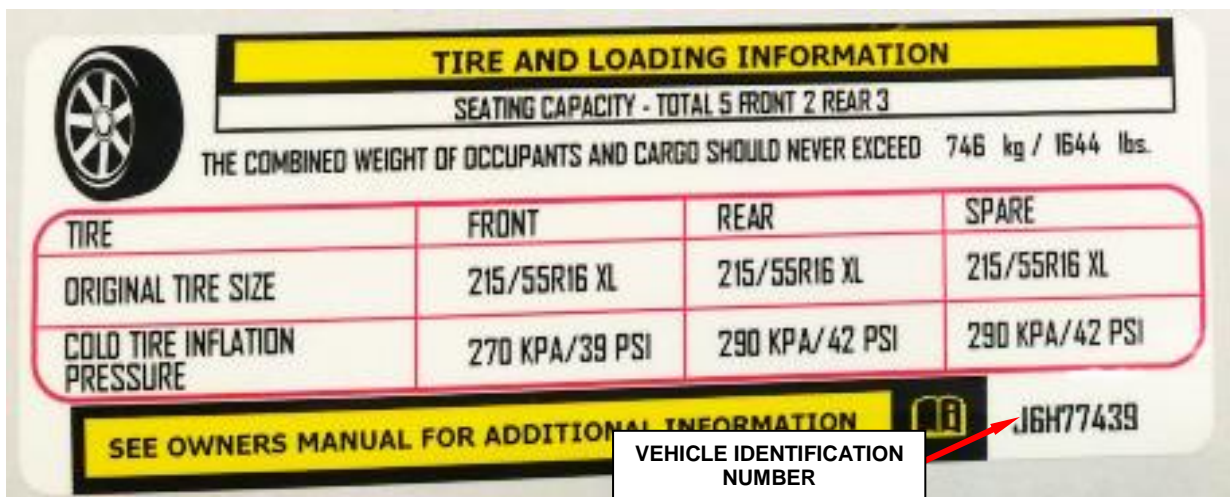

Figure 2 – Tire Placard Label
2. Compare the Vehicle Identification Number (VIN) printed on the **new** tire placard label to the VIN printed on the **original** tire placard label to ensure they match (Figure 2).